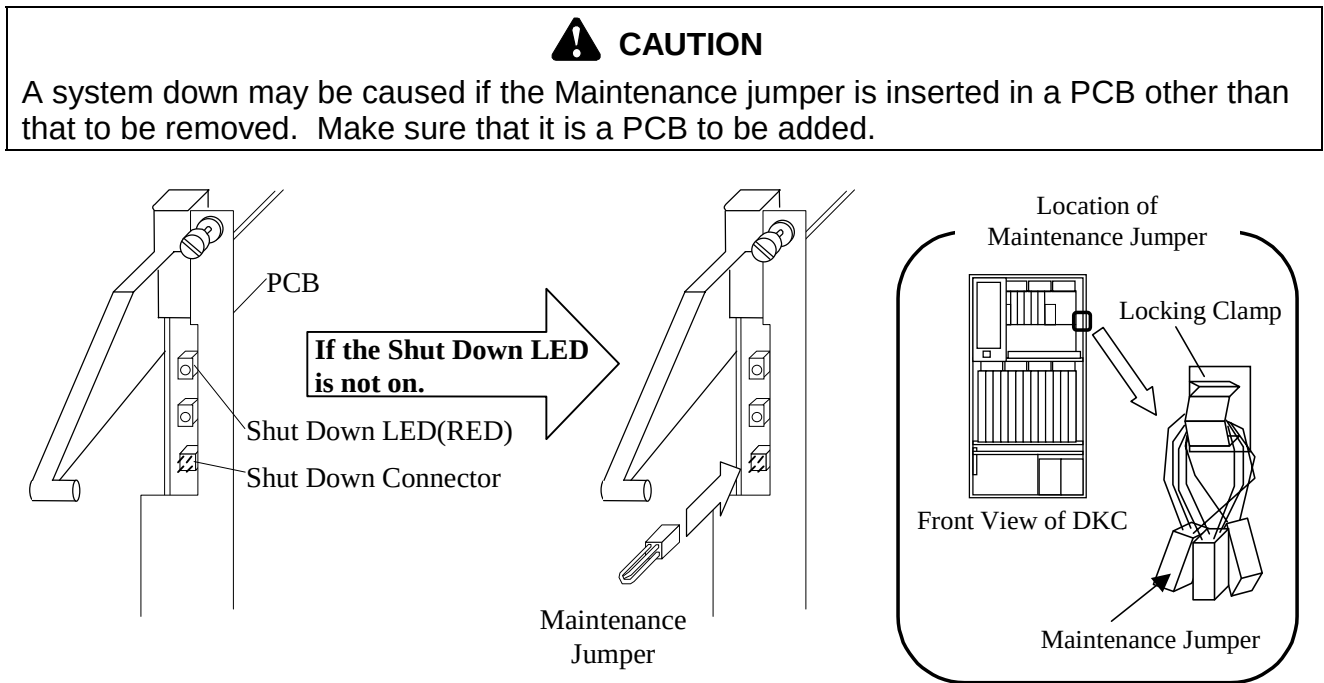

Fig. 3.9.2-4 Location of the Shut Down LED
- a. While referring to Fig. 3.9.2-4, Table 3.9.2-2 and Table 3.9.2-3, check the Shut Down LED on the Cache Memory PCB. Connect the Maintenance Jumper to the Shut Down Connector if the Shut Down LED is not on. (This procedure [5-1 a.] is not valid for a New Installation.)